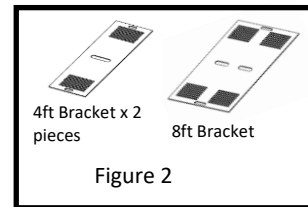

Figure 2
4. Break apart the mounting brackets into 3 pieces (Fig 2).